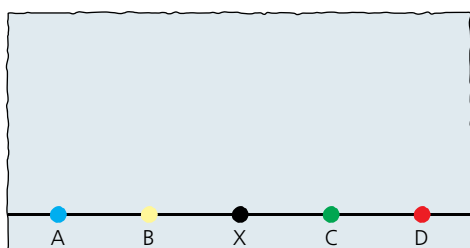

Figure 2.2 Before chromatography
- Four dyes whose identities are known are placed in positions marked A, B, C and D, as shown (Figure 2.2). These four dyes are referred to as standards.